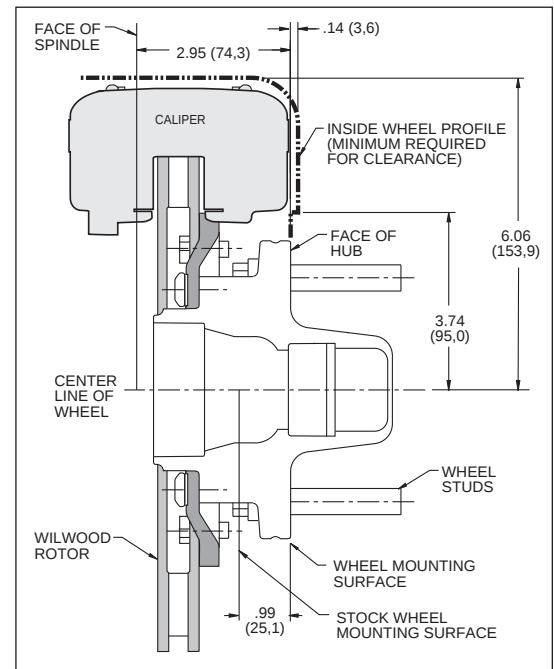

Figure 1. Wheel Clearance Diagram
• Verify wheel clearance, see figure 1.